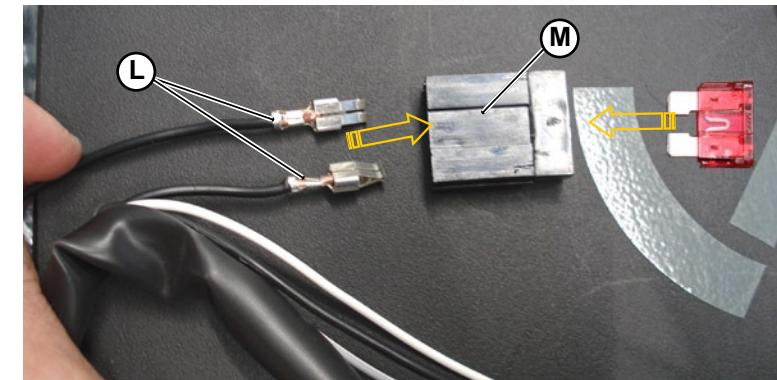

Fig.8
12. Connect one of the four big fastons (15-Fig.3) supplied with the kit to each uncovered extremes (L-Fig.8).
13. Insert the two extremes with the fastons (L-Fig.8) in one of the two black connectors (16-Fig.3) supplied with the kit; the two extremes with the fastons must be insert until it's possible to hear a little click and the wires are blocked in the black connector (M-Fig.8).
14. As showed in the picture beside (Fig.8), insert in the black connector (M-Fig.8), at the opposite side of the wires, the red fuse 10A (17-Fig.3) supplied with the kit.
17. Insert the two extremes with the fastons (L-Fig.8) in one of the two black connectors (16-Fig.3) supplied with the kit; the two extremes with the fastons must be insert until it's possible to hear a little click and the wires are blocked in the black connector (M-Fig.8).
18. Insert in the black connector (M-Fig.8) the beige fuse 5A (18-Fig.3) supplied with the kit.